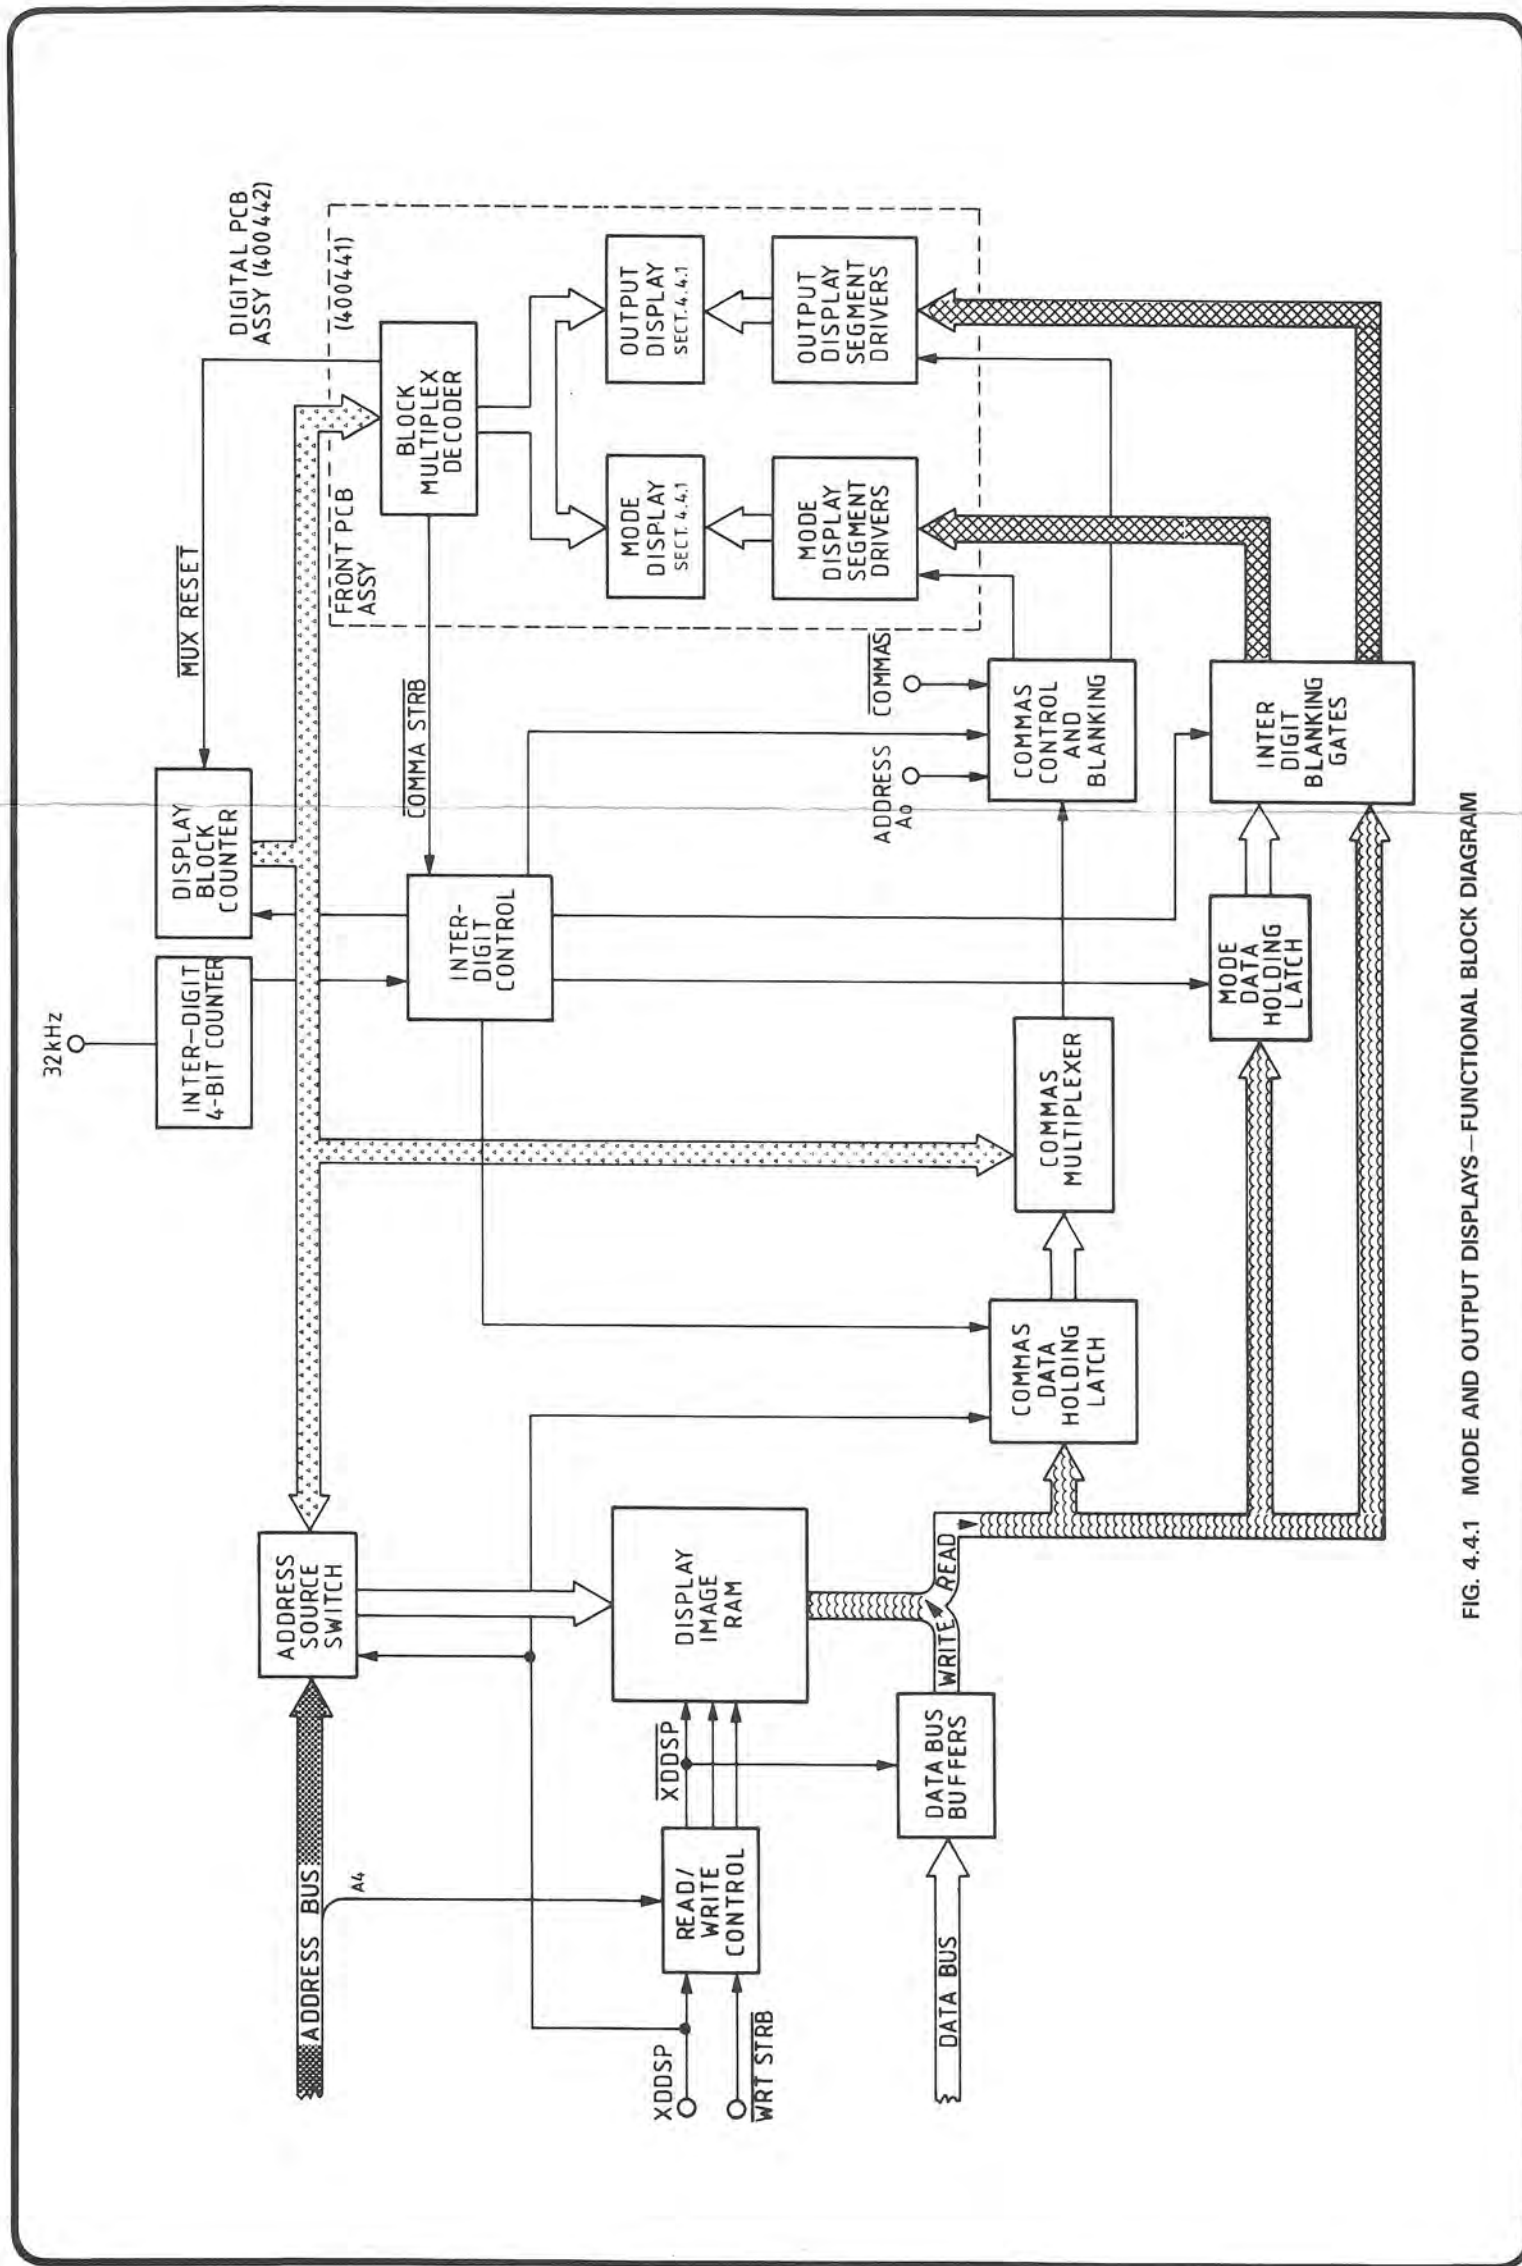

FIG. 4.4.1 MODE AND OUTPUT DISPLAYS—FUNCTIONAL BLOCK DIAGRAM
The two plasma displays, the block multiplex decoder, segment drivers and high voltage circuits are located on the Front assembly (400533). Fig. 4.4.1 shows the arrangement and main interconnections of the display circuitry.
4.4.1 General (Fig. 4.4.1)